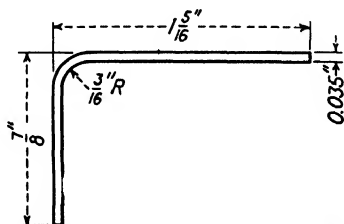

Fig. 319.—Angle of bend 90°.
85. Find the developed length of the fitting shown in Fig. 319.